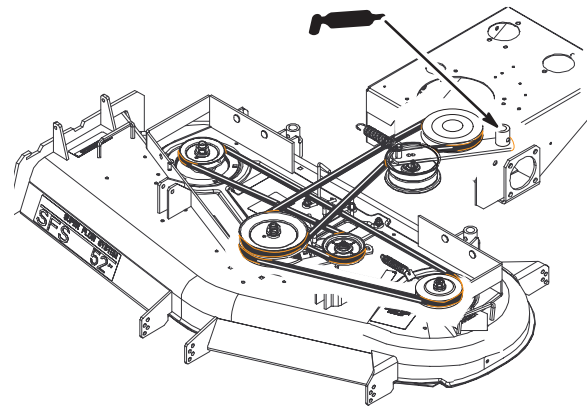

Figure 32
2. Grease the idler pulley pivot for the deck (Fig. 32).